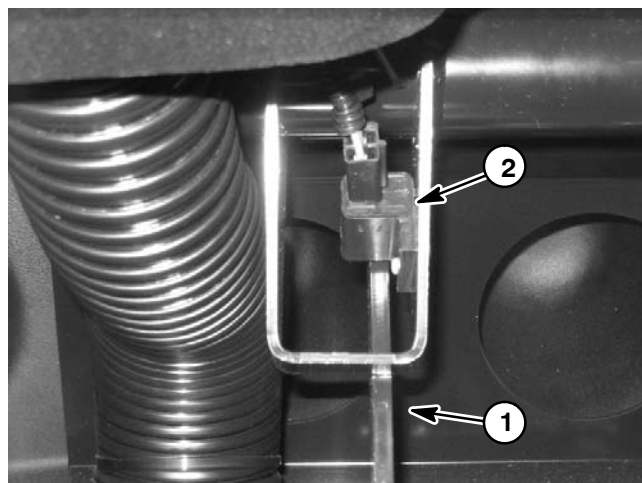
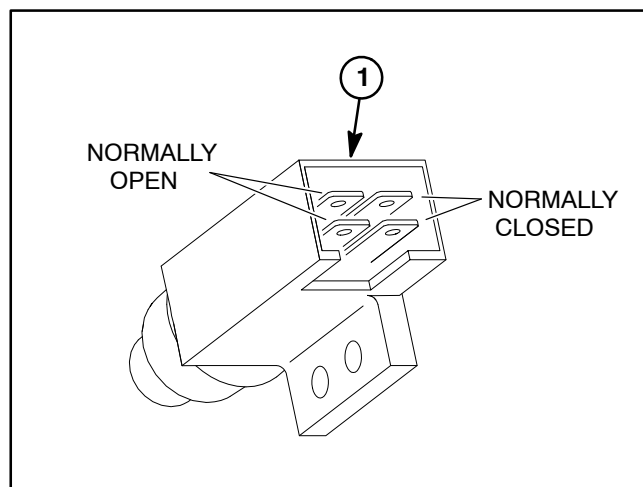

Figure 12
Figure 13
The brake switch is attached to the frame under the dash (Fig. 12). A switch with one set of normally closed terminals is used on 2WD units. A switch with one set of normally closed terminals and one set of normally open terminals is used on 4WD units (Fig. 13).
1. Park vehicle on a level surface, shut engine off, remove key from ignition switch and apply parking brake. Locate the brake switch (Fig. 12).
4WD UNITS: Test continuity across the two (2) normally closed switch terminals (Fig. 13). There **should be** continuity (zero ohms) when the brake pedal is depressed and there **should not be** continuity (infinite ohms) when the brake pedal is released.
Test continuity across the two (2) normally open switch terminals (Fig. 13). There **should not be** continuity (infinite ohms) when the brake pedal is depressed and there **should be** continuity (zero ohms) when the brake pedal is released.